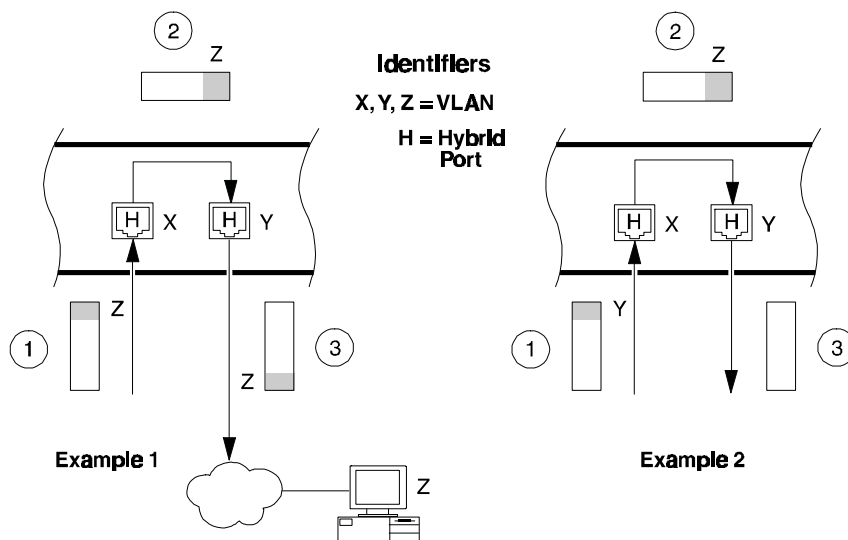

Figure C-3A VLAN Hybrid Ports (Examples 1 and 2)
In example 1 in Figure C-3A, two different VLANs are configured as X and Y. A packet arrives (1) with a tag for VLAN Z, goes straight through the switch (2) and back out (3), destined for VLAN Z, a VLAN Z-aware end-user workstation. If the packet already has the tag attached, then the switch uses that information, transparent to the VLAN configuration of the incoming port used for that packet's arrival. The switch forwards the packet so that it reaches its ultimate destination.
In Example 2 in Figure C-3A, a similar scenario to Example 1 occurs, except that the incoming packet (1) is tagged with a VLAN Y tag. The packet is being sent (2) to a port that belongs to VLAN Y. Since VLAN Y exists on the port, the tag is stripped off (3).